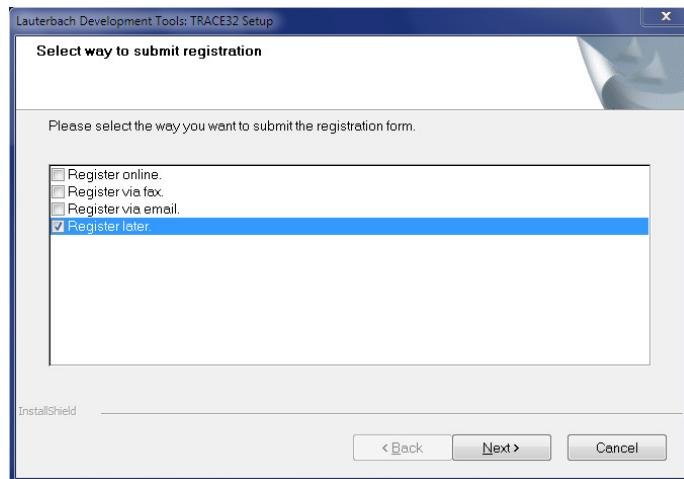

Figure 5.35: Select way to submit registration page
17. On the **Select way to submit registration** page, select **Register later** (see Figure 5.35 on the current page).